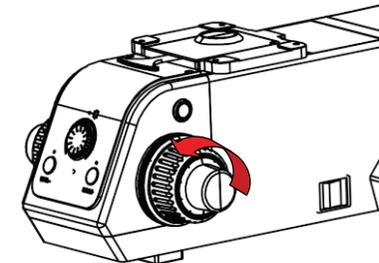
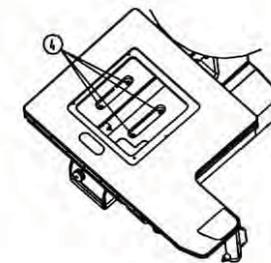

Fig.4
Fig.5
- (1) Turn the rough hand wheel ① in the direction of the arrow to lower the stage bracket ② to the lowest. (Fig.4)
- (2) Place the stage gently in the center of the stage bracket.
- (3) Align the screw hole on the stage with the screw hole on the stage bracket and fix it with screws. (See Fig.5)
- (4) Gently put the glass platform into the groove of the loading platform, keep the glass platform perpendicular to the optical axis, and fix the glass platform with locking screws.